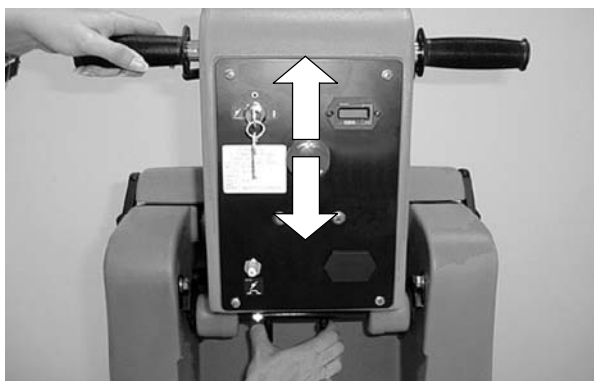

FIG. 8
1. Locate the two spring loaded levers below the console (Figure 8).